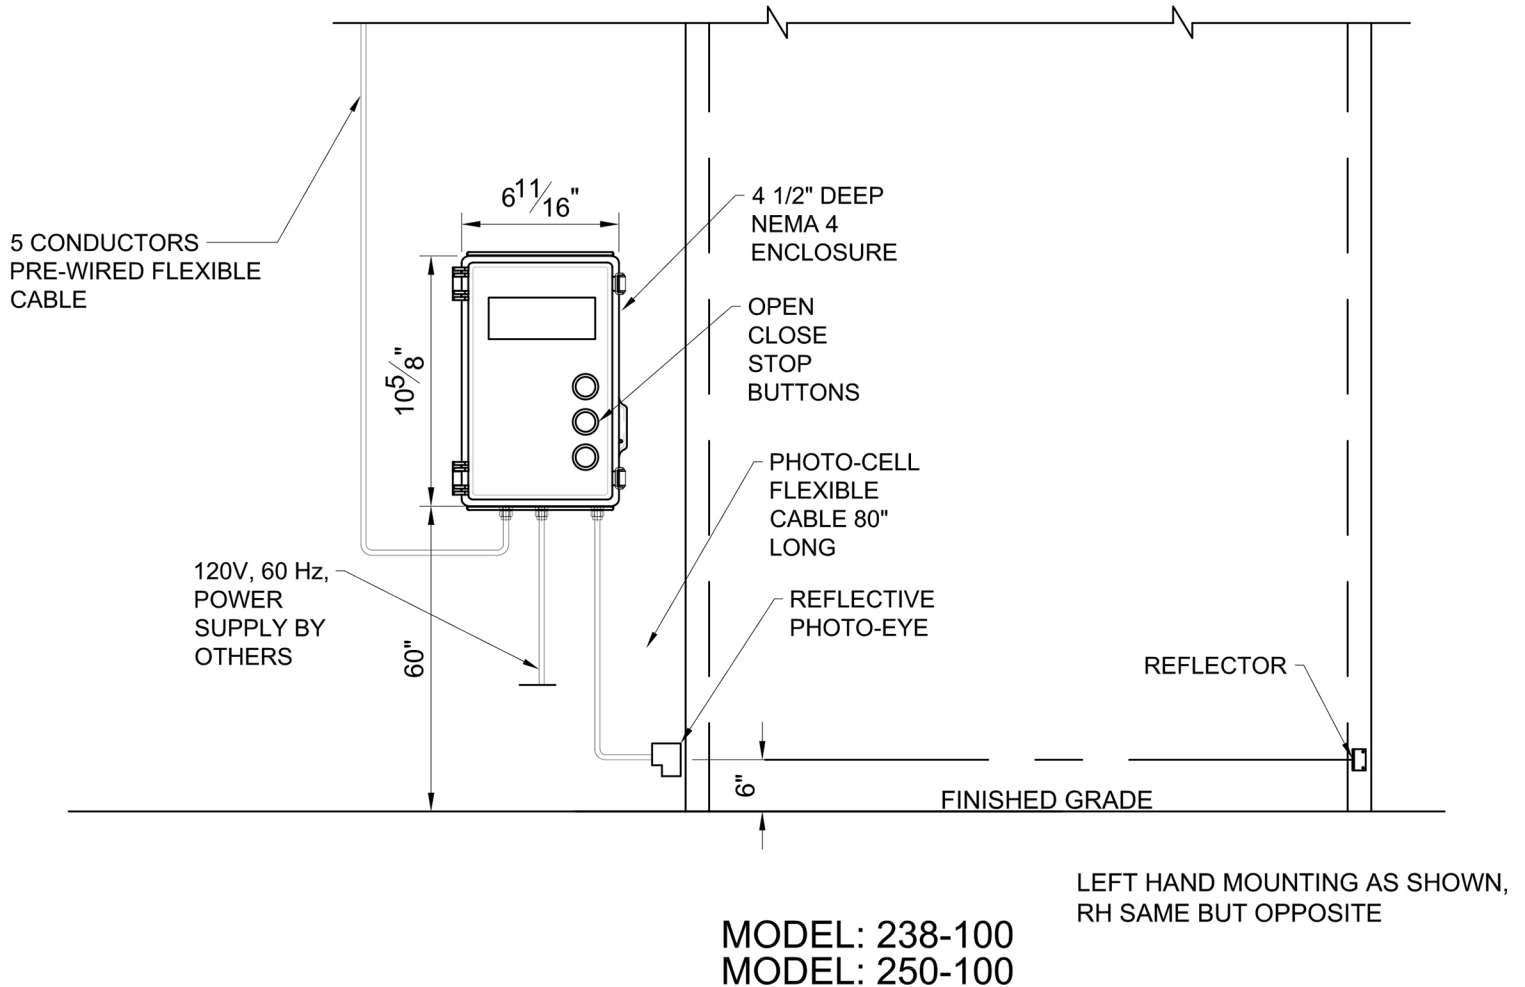

FIGURE: 8
The control panel should be securely mounted at or around eye level (minimum 5 ft. from floor) on the same side as the operator/junction box. Ensure that the control panel is mounted far enough away from the door as to avoid user contact with the door while in operation, but close enough that the user has clear view of the door at all times. Four (4) control mounting brackets are provided to facilitate mounting. See Fig: 8
The included reflective photo-eye or optional thru-beam sensor should be mounted so that it scans area that spans the entire width of the door at a height of no more than 6 inches from the ground. The sensor (reflective photo-eye) or receiver (thru-beam) should be mounted on the operator side (as it will be wired into the control panel), while the reflector or transmitter should be mounted on the opposite side of the door, facing the sensor/receiver so that its center meets the beam. Use the included mounting bracket(s) to secure to either the door tracks or the wall. Refer to the specific mounting details provided with the sensor. For final alignment of the sensor, apply power to the sensor (after completing WIRING - see page 10/11 for additional wiring info). Once properly aligned the indicator will light up in confirmation. See Fig: 8 for mounting reference.